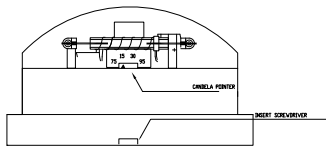

Figure 5:
- 6.To move selector switch, insert screwdriver into slot shown on the bottom side of the strobe. See Figure 5.
- 7.Mount the chime mounting plate to the backbox with the cone protector on. After the chime mounting plate is attached to the backbox, remove the cone protector before installing the grille. Next, attach the grille to the chime mounting plate and attach with (2) screws.
**WARNING A SMALL POSSIBILITY EXISTS THAT THE USE OF MULTIPLE STROBES WITHIN A PERSON'S FIELD OF VIEW, UNDER CERTAIN CIRCUMSTANCES, MIGHT INDUCE A PHOTO-SENSITIVE RESPONSE IN PERSONS WITH EPILEPSY. STROBE REFLECTIONS IN A GLASS OR MIRRORED SURFACE MIGHT ALSO INDUCE SUCH A RESPONSE. TO MINIMIZE THIS POSSIBLE HAZARD, COOPER NOTIFICATION STRONGLY RECOMMENDS THAT THE STROBES INSTALLED SHOULD NOT PRESENT A COMPOSITE FLASH RATE IN THE FIELD OF VIEW WHICH EXCEEDS FIVE (5) Hz AT THE OPERATING VOLTAGE OF THE STROBES. COOPER NOTIFICATION ALSO STRONGLY RECOMMENDS THAT THE INTENSITY AND COMPOSITE FLASH RATE OF INSTALLED STROBES COMPLY WITH LEVELS ESTABLISHED BY APPLICABLE LAWS, STANDARDS, REGULATIONS, CODES AND GUIDELINES.**